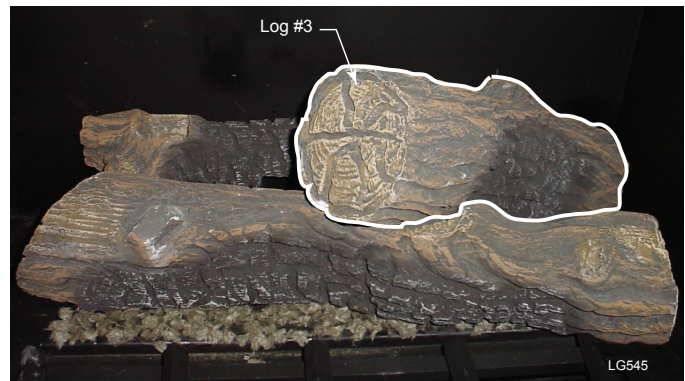

Figure 67 - Install log #3
3. Place log #3 at an angle over log #2 toward the back by matching the rectangular notch on the bottom of this log with the rectangular protrusion on log #2. Then set the log with the notch located on the bottom of this log toward the back over the metal bracket located to the right side of the burner. *Figure 67*